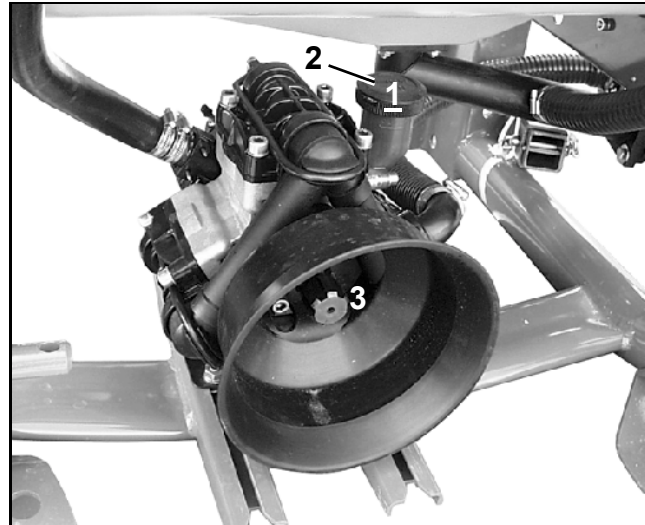
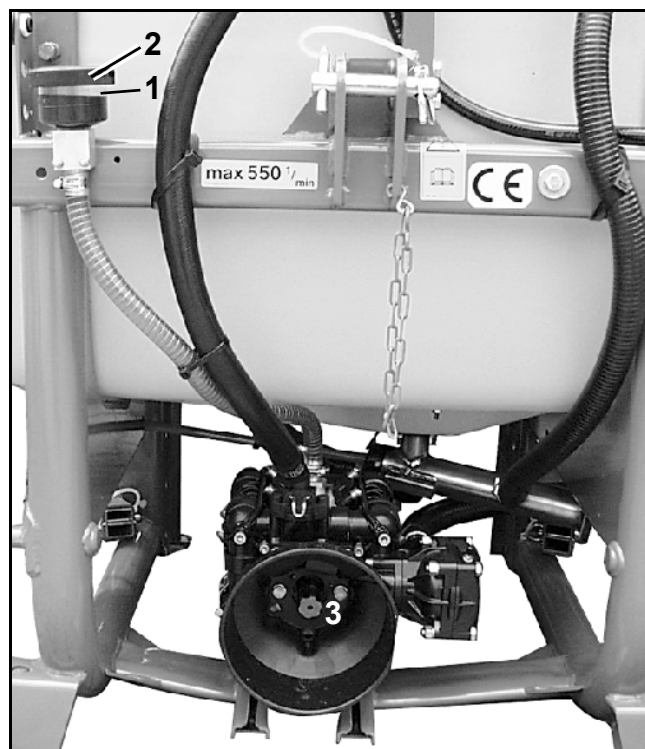
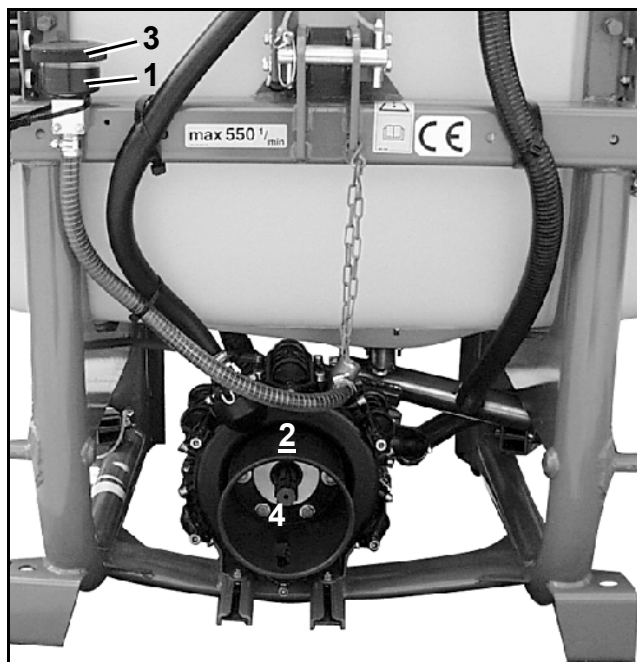

Fig. 127
Fig. 128
Fig. 129
With the pump stopped and in horizontal position the oil level is correct when it is visible on the markings of the oil filler (Fig. 127/1, Fig. 128/1, Fig. 129/1).
The oil reserve inside the pump housing of the 6 piston diaphragm pump (BP 205 or BP 235) (Fig. 128) functions simultaneously for the necessary pressure balance of the peak pressures and thus dampening the pulsation effect during liquid delivery by the stroke movements of the pump's pistons.
- Remove the pump lid (Fig. 127/2, Fig. 128/2 or Fig. 129/3).
- Spin drive shaft (Fig. 127/3, Fig. 128/3, Fig. 129/4) by hand until the old oil is fully drained off.